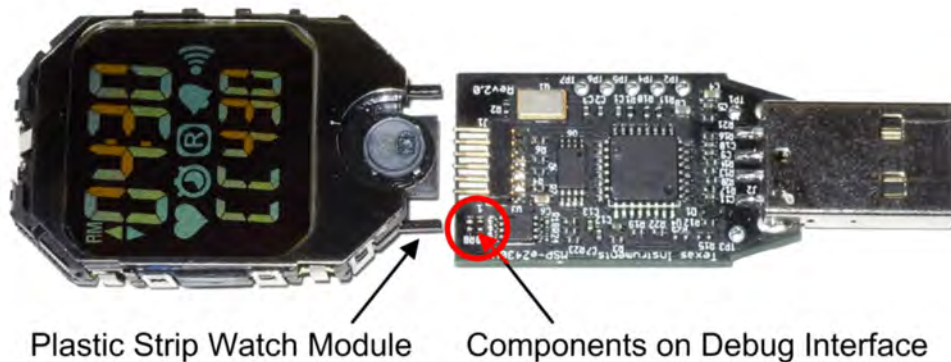

Figure 4-3. eZ430-Chronos Watch Module Attached to eZ430-RF Debug Interface
5. Connect the watch to the emulator. The watch module and the USB connector must be on the same side of the PCB as shown in Figure 4-3. Be careful when connecting the watch module, because its small plastic strips can get stuck at components on the emulator.